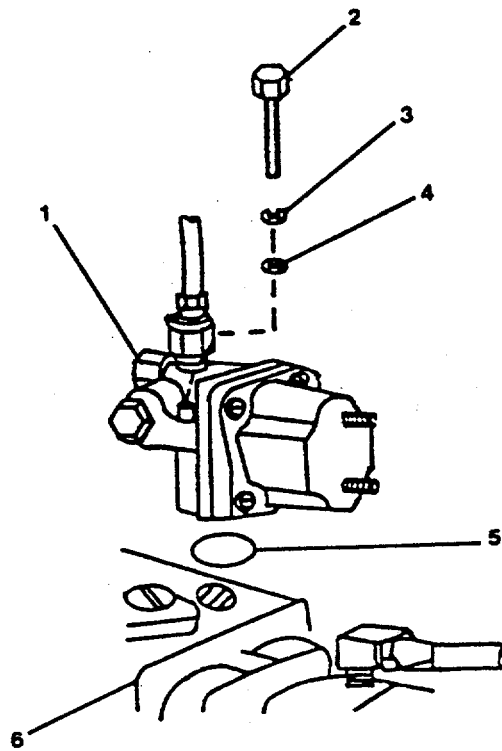

FIGURE 3-17. Shutoff Valve Assembly.
- (1) Remove the two hexagon capscrews lockwashers and flat washers (2, Figure 3-17), securing the shutoff valve to the fuel pump (6).
- (2) Remove the shutoff valve body and preformed packing (5) from the fuel pump. Discard preformed packing.
- a. Check the shutoff valve assembly (Figure 3-17).
- (1) Check the coil assembly with an ohmmeter. Replace the shutoff valve assembly if the resistance reading is not between 28 and 32 ohms.
- (2) Operate the manual control knob (1, Figure 3-17) and check for proper operation. With the control knob rotated fully counterclockwise, the fuel passage through the valve should be closed (with no electricity being applied to the coil). With the knob rotated fully clockwise, the fuel passage should be open.
- (3) Visually check for dirt, corrosion, or damage. Replace the shutoff valve assembly if any damage is found.
- (4) Replace the shutoff valve assembly (Figure 3-17) as required.
- c. Use petroleum jelly to hold new preformed packing (5, Figure 3-17) to the bottom of the shutoff valve. Install the shutoff valve on the pump body. Tighten the capscrews (2) to 10 ft-lb (13.5 N-m) torque.